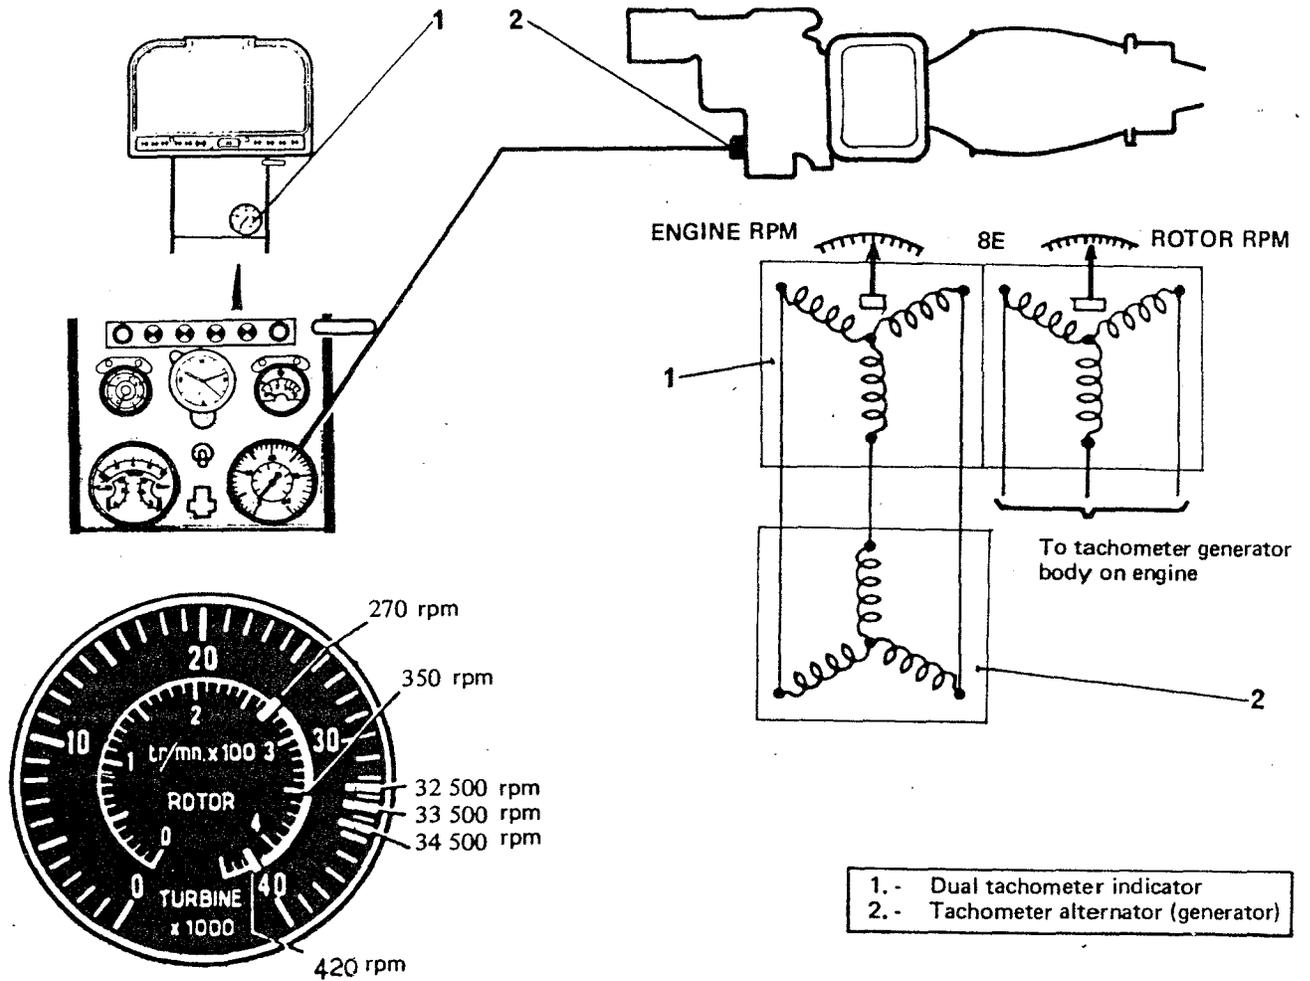

Figure 1
12.40.2. - ROTATIONAL SPEED MONITORING (Figure 1)